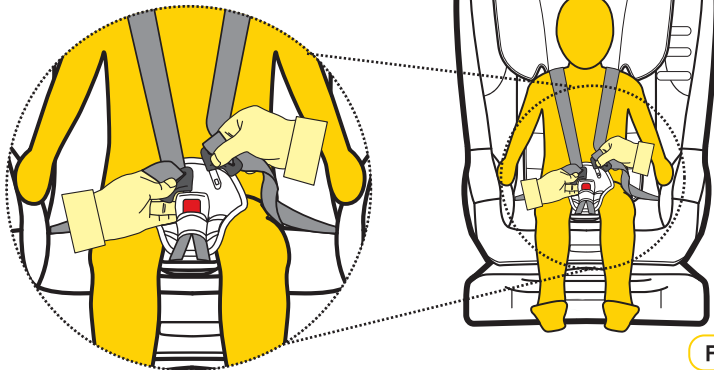

Figure 2
Step 3: Place child in car seat with legs either side of the buckle, place harness over the shoulders and hips. (refer Figure 2).